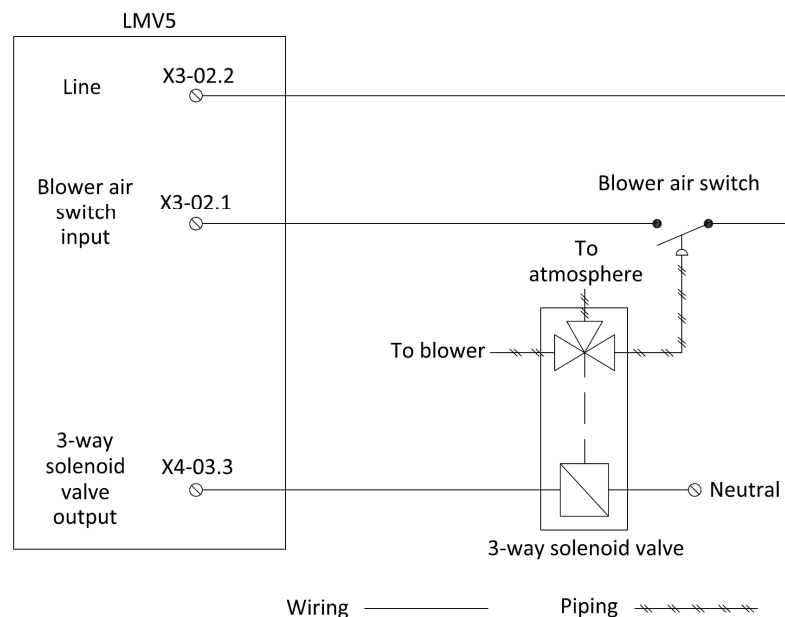

Figure 2: Wiring a 3-way Solenoid Valve for Direct Start
4. Install and wire a 3-way solenoid valve as shown in Figure 2.
1. Wire the RWF5x to the LMV5 as shown in Figure 2.